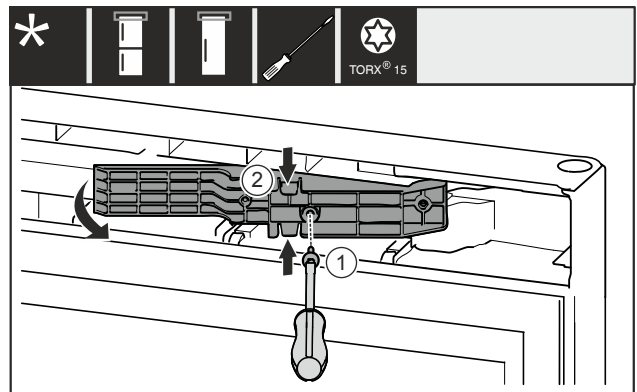

Fig. 14 *
- Remove the screw Fig. 14 (1).*
- Gently press the top and bottom of the adapter piece Fig. 14 (2) together and pull it out.*